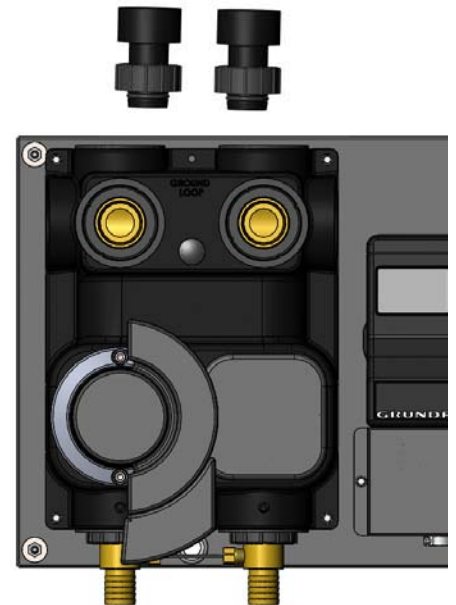

Figure 2: Flow Sensor
3. Complete heat pump piping. If using a flow sensor (figure 2), cut a small piece of hose (6" to 8") to connect between the bottom barbed connection at the flow center and the flow sensor. If the package does not use a flow sensor (temperature difference control only), the small piece of hose is not needed. Then, cut the remaining amount of hose as needed for connections to/from the heat pump and the flow center.